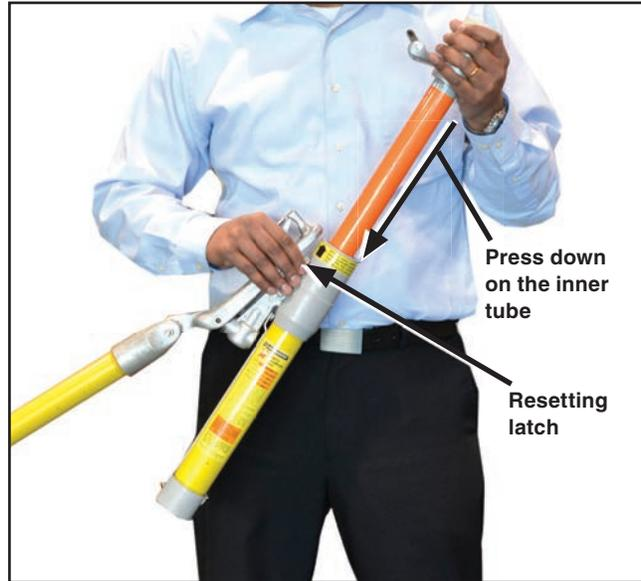

Figure 7. Resetting the Loadbuster tool.
8. **RESETTING.** Keep hands clear during resetting. The Loadbuster tool is spring loaded. Pulling the resetting latch will cause the anchor end of the tool to move down quickly. Keep hands in the position shown in Figure 7 on page 14.
STEP 5. To reset the Loadbuster tool for the next operation, hold as shown in Figure 7. Extend the tool slightly and lift the resetting latch with the thumb. With the latch up, press down on the inner tube assembly until the tool is closed completely so the trigger can reset itself. When reset properly, the orange paint on the inner tube assembly will no longer be visible. Check for proper resetting by extending the tool about 3 inches (76 mm). Throughout this travel an increasing spring resistance should be felt.